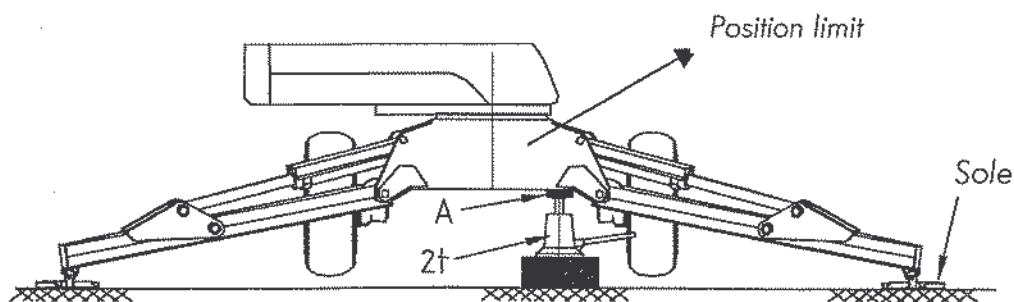

Figure 16.-3
7. Place a jack or other hoisting apparatus by an outrigger (see figure 16.-3). Place e.g. a board (A) etc. between the jack and the chassis. Use the jack to lift the chassis until the sole comes slightly off the ground. The outrigger should then sink lightly and distance D should be at least 35 mm, refer to figure 16.-2.